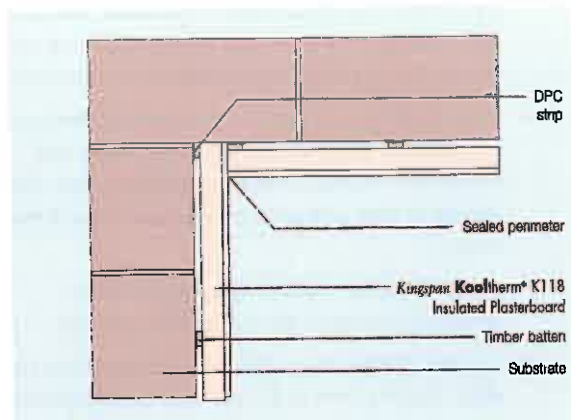

Figure 9 – Internal corner detail
- For external corners (including reveals), the lining should run past the corner and the insulating backing of **Kingspan Kooltherm® K118 Insulated Plasterboard** should be cut back to create a junction (see Figures 9 & 11). Sheets should be cut and rebated to allow a plasterboard / plasterboard joint at the angle (see Figures 9 & 10).
- Ensure sheets are lightly butted and air gaps minimised to reduce the risk of cold bridging (see Figures 9 & 11). Any air gaps should be sealed with flexible sealant or equivalent, or a combination of flexible polyurethane foam and flexible sealant or equivalent.